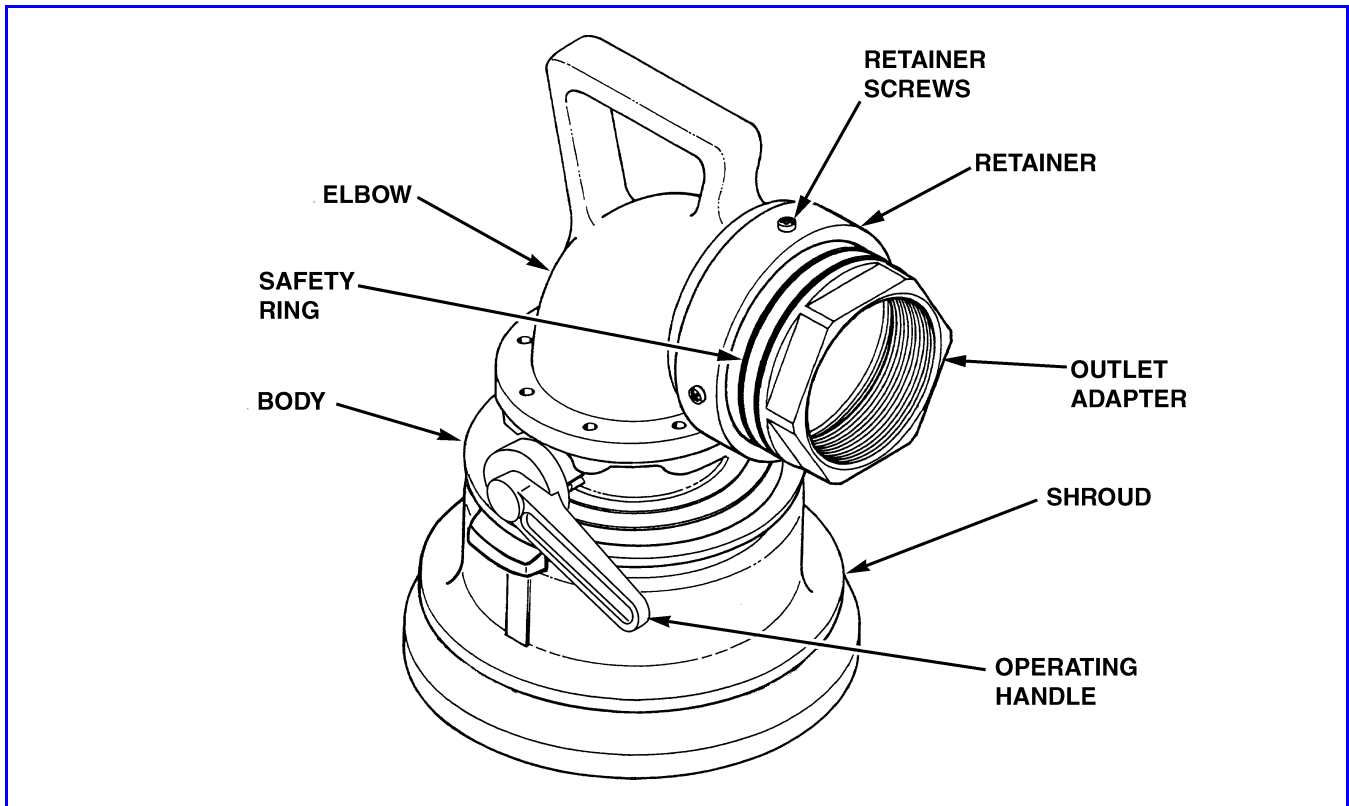

Figure 1. Hydrant Coupler
The Hydrant Coupler (coupler) (see Figure 1) provides the means of connecting 4-inch hydrants and adapters conforming to API Standard 1584. The various optional configurations permit the use of several thread and hose sizes. The major functional components of the hydrant coupler are the swiveling outlet adapter, the elbow, and the coupler body section.
A. Removing the Swivel Assembly from the Coupler Elbow (Refer to IPL Figure 1)
- 1) Pull the safety ring (1A) out of its groove and slide it back to the retaining ring (1).
- 2) Unscrew the four screws (2) until the retainer will slide back to the safety ring (1A).
- 3) The swivel assembly can now be pulled off of the elbow (11)